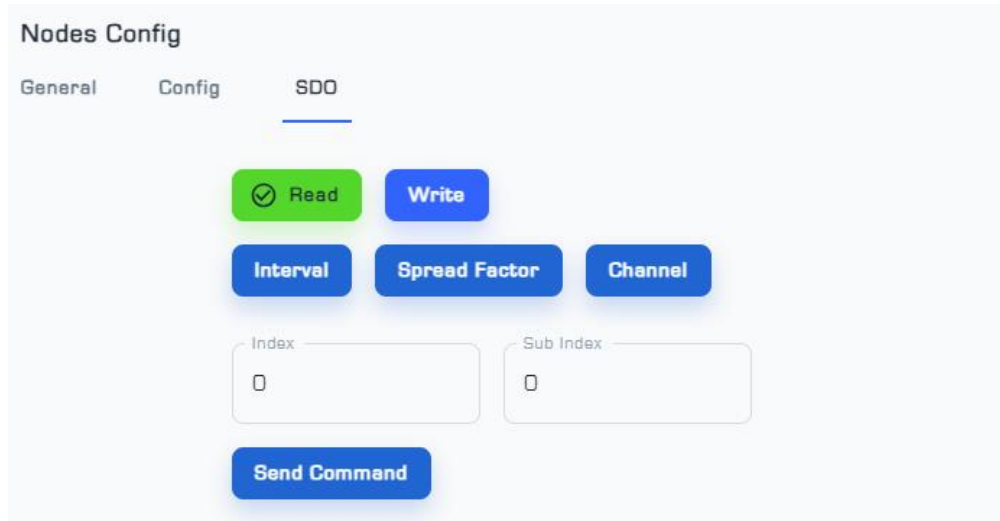

Figure 7: SDO Menu from Node Setting page
■ The SDO menu is used to change the parameters of Interval 1, Spread Factor, and Channel2 (Figure 7).